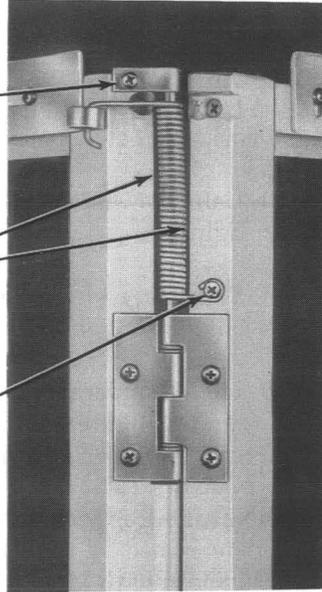
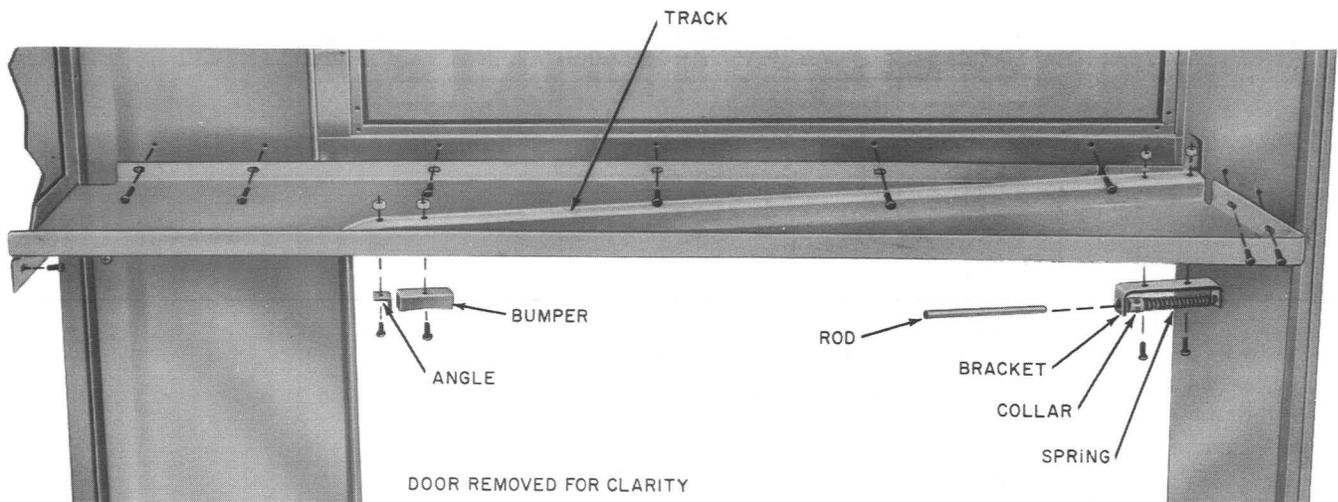

Fig. 19—Installation of Top Hinge Assembly
Fig. 20—Installation of Door Track
- (1) Check hinge wear. Clearance between hinge barrels should not exceed 1/16 inch; gauge by eye. Replace worn hinges.
- (2) Replace defective spring of the top hinge assembly only if the assembly is the latest type (Fig. 19). Replace all earlier type assemblies with the new top hinge assembly.
- (3) If door hinges squeak, lubricate at each joint between the barrels with KS-14774, L2G lubricating grease or equivalent; a KS-14796 oiler may be used.
- 4.18 When worn door track is interfering with operation of door, replace track as shown in Fig. 20.